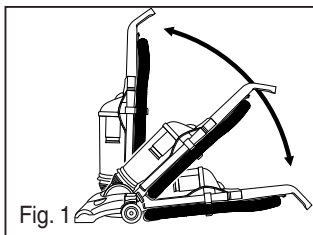

Fig. 1
- 1) Use handle release to lower handle flat onto floor (Fig. 1).